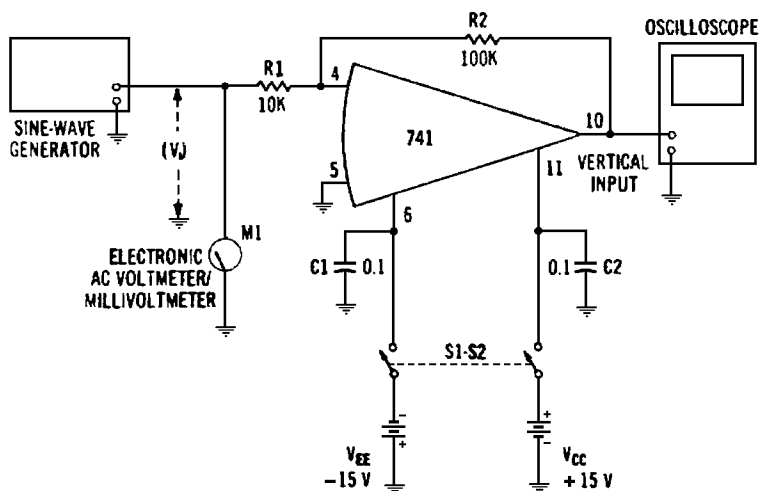

Fig. 2-21. Ac input-voltage range.
### Required Equipment (Fig. 2-21)
1. With switch S1-S2 open, the oscilloscope off, and the generator off (with its output attenuator set to zero), set up the test circuit as shown in Fig. 2-21.